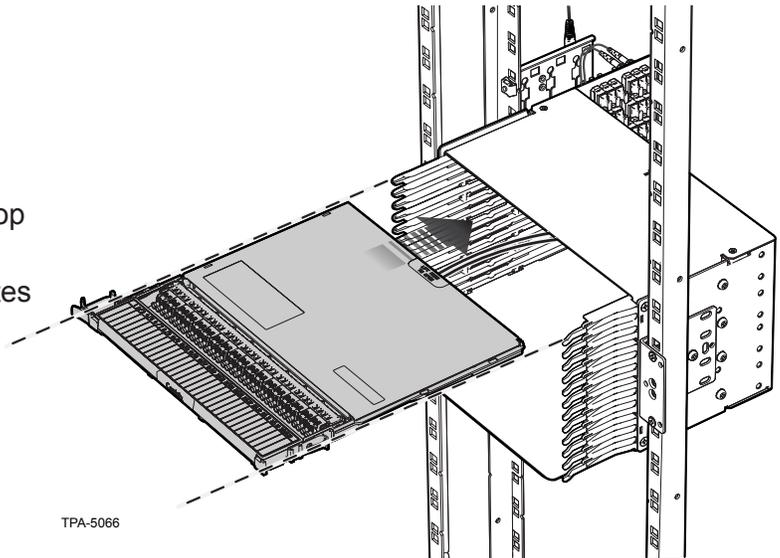

Figure 5
**Step 7:** Feed the MTP® pigtails through from the front of the housing to the back (Figure 5).